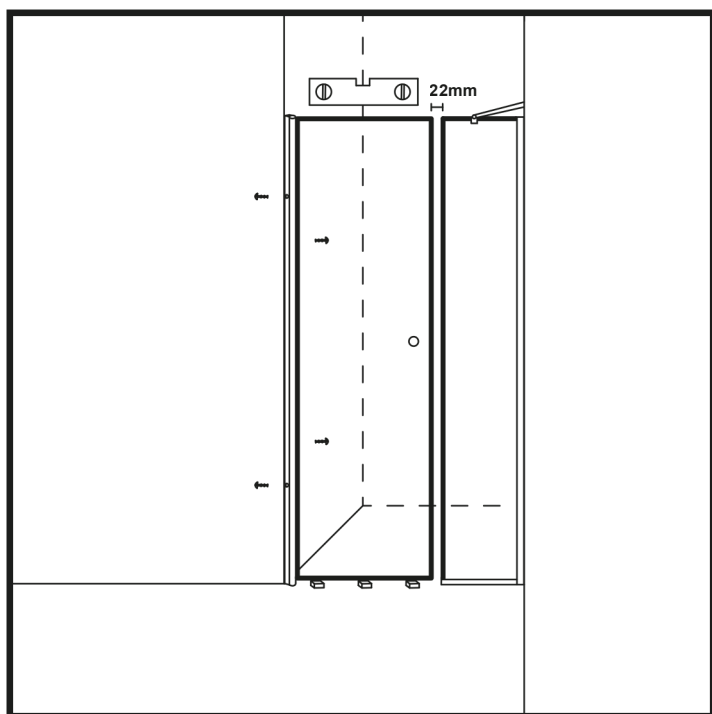

Figure 15
39. Make sure that the glass is properly secured inside the hinge profile and that the edge of the glass is plumb. (Figure 15)